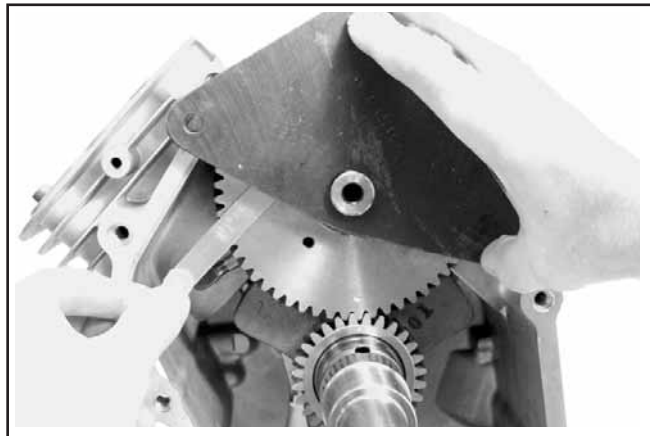

Figure 10-16. Checking Camshaft End Play.
2. Position the camshaft endplay checking tool on the camshaft. See Figure 10-16.